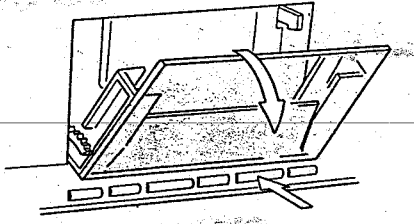

Fig. 11
1) Open the cassette lid. (See figure 11)